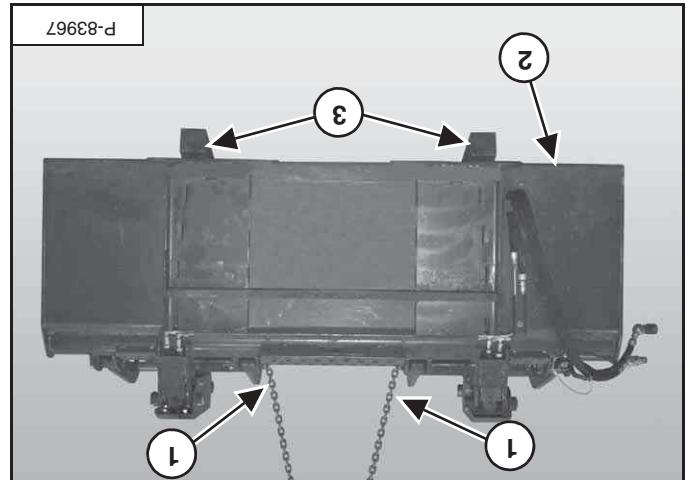

Figure 102
102] Lift the fork grapple and place blocks (item 3) [Figure 102] under the frame. Lower the fork grapple onto the blocks